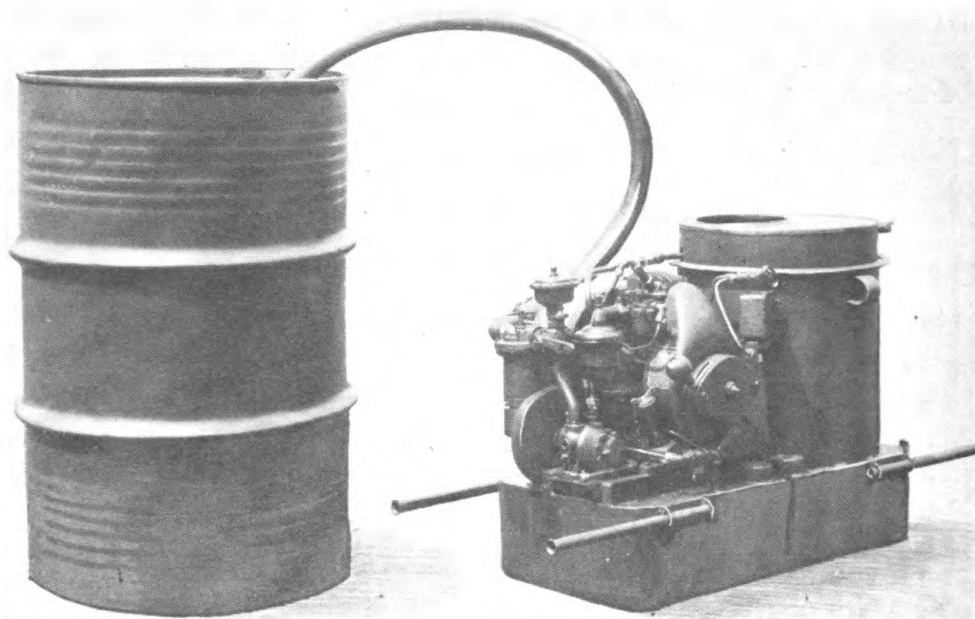

Fig 2. Mechanical smoke generator M2 set up for use with fog oil supply (55-gallon drum).
b. Use. M2 generators are used, alone or in conjunction with other smoke-making devices, to produce large area smoke screens, tactics and characteristics of which are covered in FM 3-50. The Table of Organization and Equipment for chemical smoke generator companies provides for mounting generators on 1/4-ton trucks and 1/4-ton trailers. The generator may also be mounted on the ground (fig 2), or in a boat. Movement of unit in operation does not impair its efficiency.
e. Liquids. Operation of generator calls for four liquids: gasoline, water, engine oil, and fog oil. (Fog oil is also called special oil or SGF.) Gasoline is used to fuel both engine and burner. Engine oil is used to lubricate the engine. Water and fog oil are the ingredients from which the smoke is formed. Gasoline and water are carried in the two 6-gallon tanks comprising base of generator, the gasoline tank being located under engine, the water tank under furnace assembly. Fog oil is not carried on the generator but is drawn into the flow system from an outside source, normally a 55-gallon drum as shown in figure 2. The gasoline